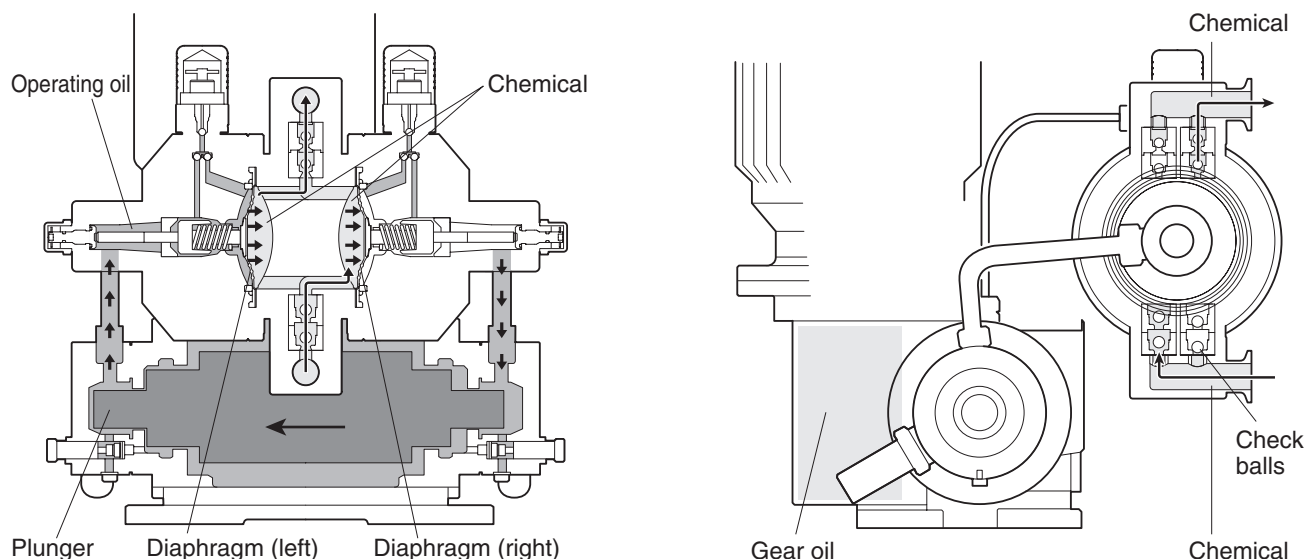

Fig. 2
- (3) When the plunger (at the end of the pump shaft) in Fig. 2 moves toward the left